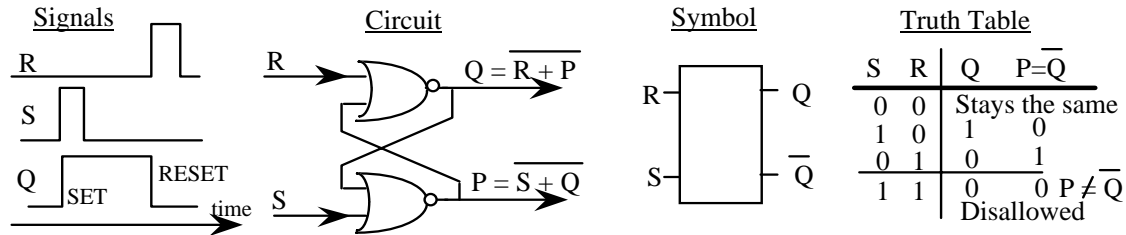

Fig. 9.5. RS memory element.
4. Derive the truth table for a RS memory element made from two NOR gates (see Fig. 9.5).